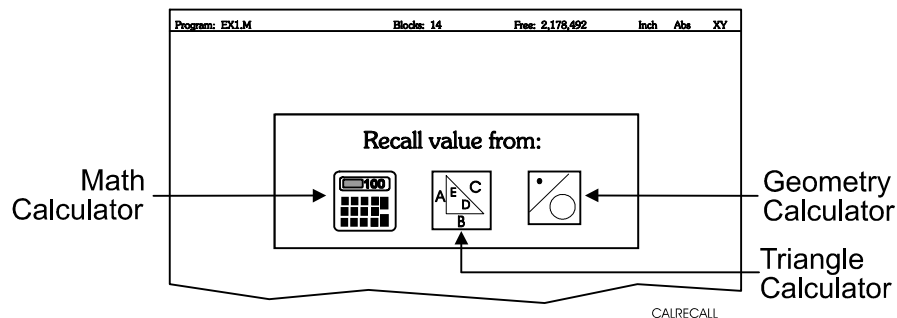

Figure 12-5, Recall Selection Pop-up Menu
The Program Editor always displays **Recall (F2)** when a Graphic Menu activates. Recall calculator solutions stored in memory directly to the entry fields of a Graphic Menu. You can recall stored values only from the same calculator in which they were stored. Use the menu to select the type of recall. Refer to **Figure 12-5**.
2. Press **Recall (F2)** to display the **Select point:** menu. Refer to **Figure 12-5, Recall Selection Pop-up**.